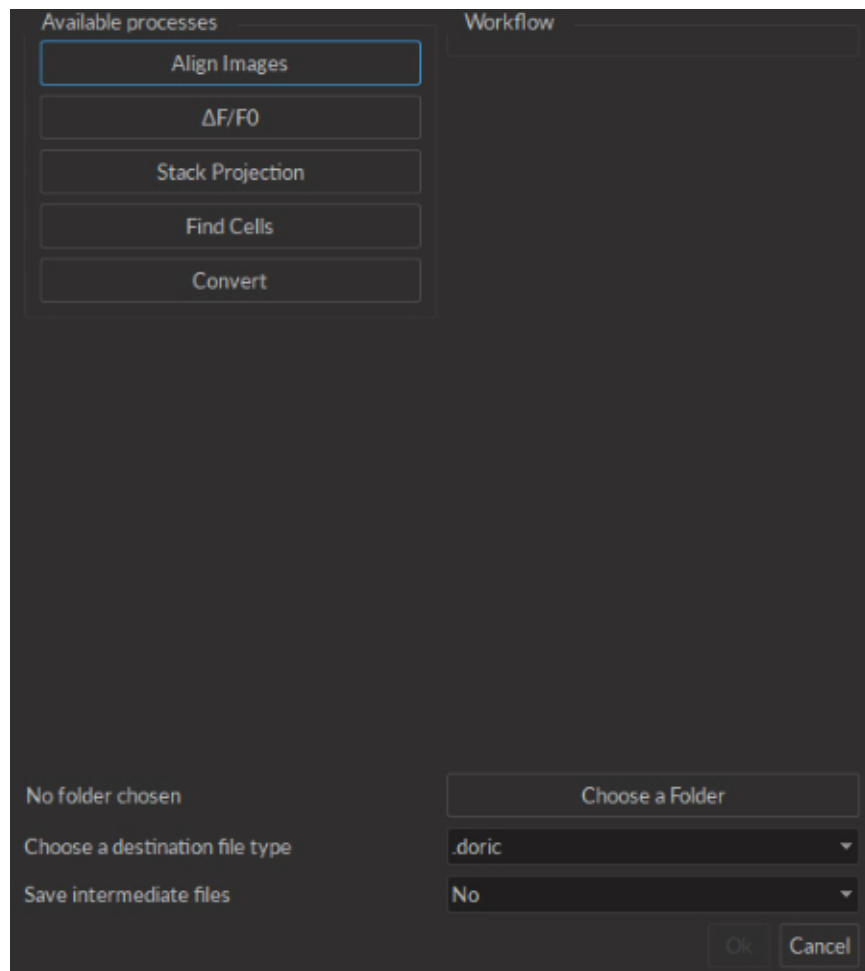

Figure 4.7: Batch Processing Window
- The **Batch Processing** function opens the **Batch Processing Window** (Fig. 4.7). This allows the processing of large datasets in sequential order, without needing to activate each individual function.